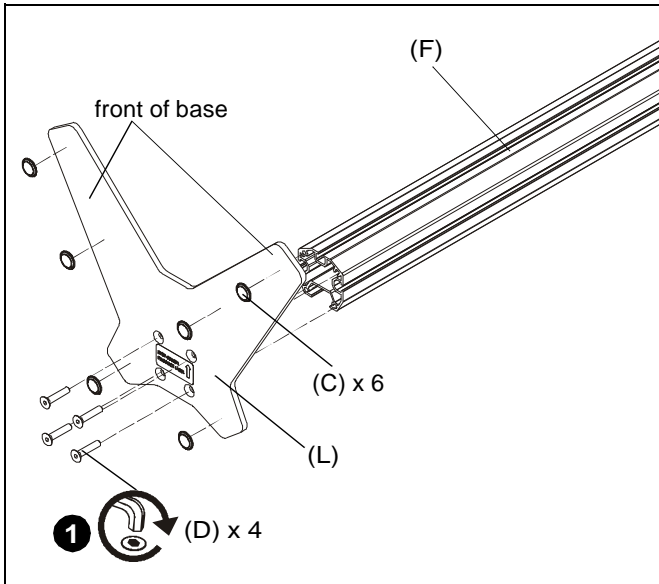

Figure 1
1. Use four 1/4-20 x 1 1/4" flat head cap screws (D) to secure base (L) to column (F). (See Figure 1)
NOTE: Make sure front of base (long legs) is on the display side when attaching base to column. (See Figure 1)
2. Apply bumpers (C) to underside of base (L). (See Figure 1)